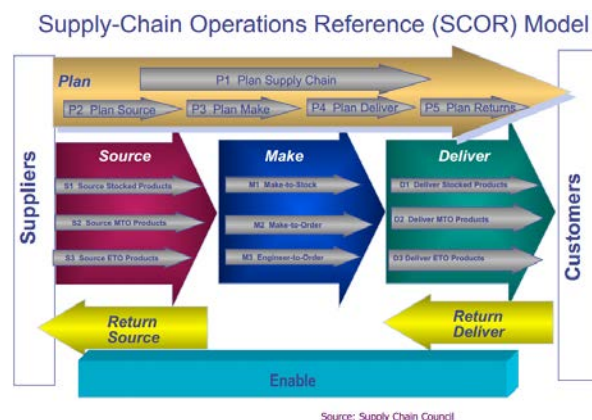

Figure 2 SCOR Model. Source: Supply Chain Council
**The Supply Chain Operations Reference (SCOR) Model** is another useful perspective. It shows the four major operations in a supply chain: source, make, deliver, plan, and return. (See Figure 2 below)